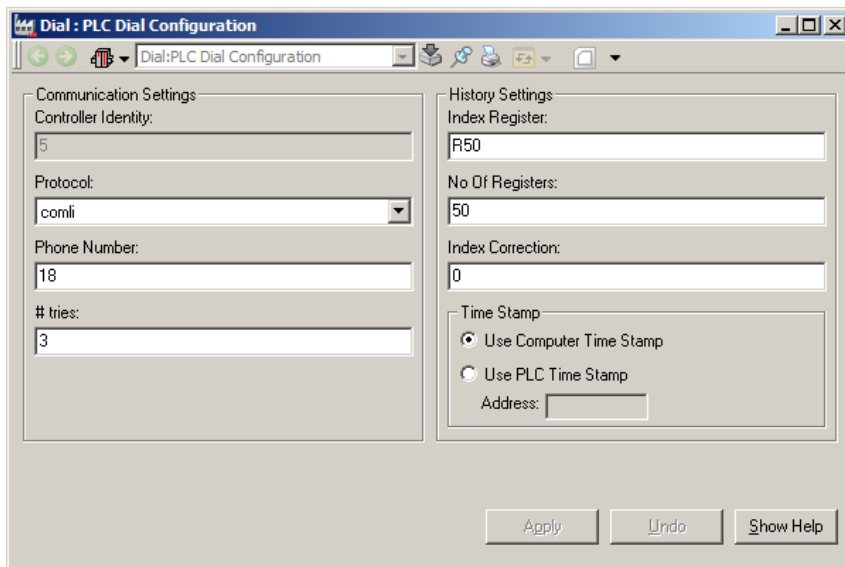

Figure 50. PLC Dial Configuration Aspect
2. In the Aspect List area, select **PLC Dial Configuration** aspect as shown in Figure 50.